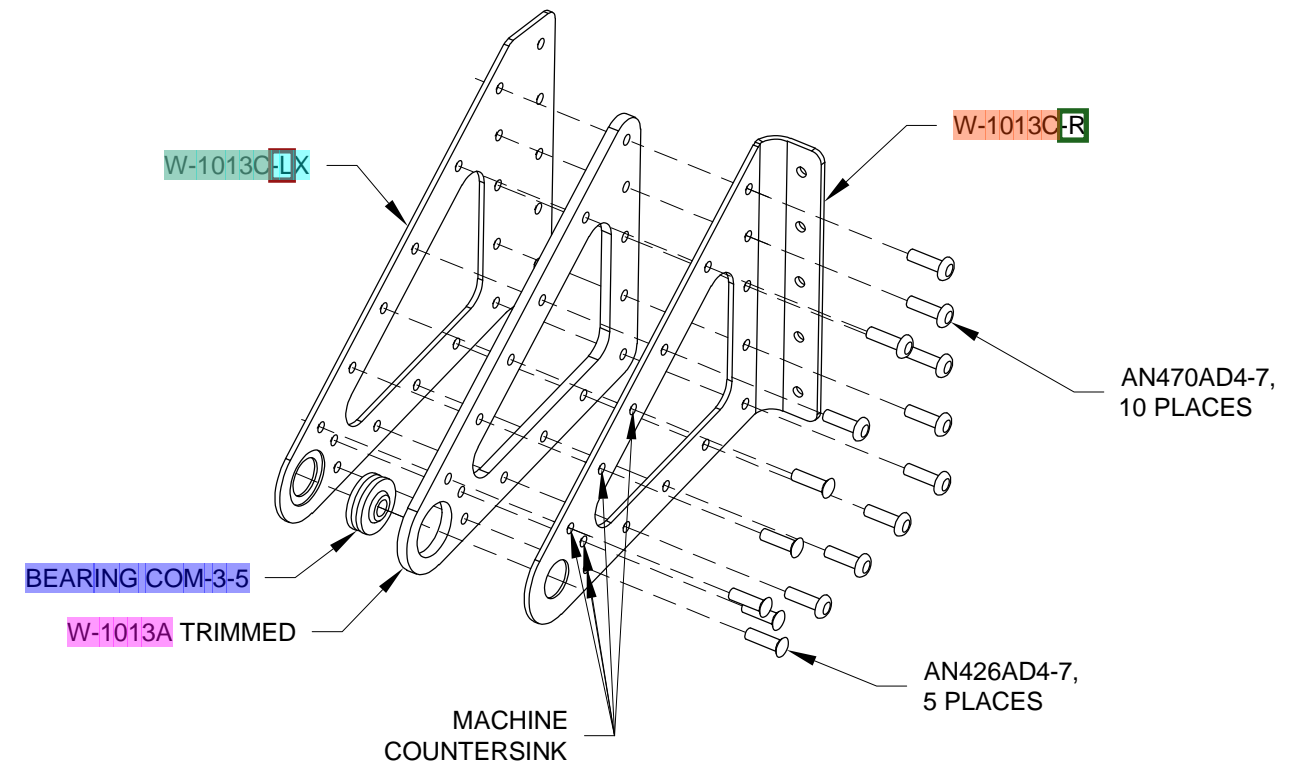

FIGURE 2: W-1014-L OUTBOARD AILERON BRACKET ASSEMBLY
Step 2: Cleco the **W-1013A** TRIMMED Aileron Hinge Bracket Spacer, **W-1013C-L** and **W-1013C-R** Aileron Hinge Bracket Sides together as shown in Figure 2. Match-Drill #30 all common attach holes. Machine countersink the aft holes (as indicated in Figure 2) on the **inboard** face of the **W-1013C-R** Aileron Hinge Bracket Side for the head of an AN426AD4 rivet. Repeat this process for the right outboard aileron bracket assembly.
Step 4: Press a **BEARING COM-3-5** into both **W-1013A** TRIMMED Aileron Hinge Bracket Spacers as shown in Figure 2. Use a 7/16 inch, 3/8 inch drive socket to push and a 9/16 inch, 3/8 inch drive socket to push into. Squeeze with a vise or c-clamp.
Step 6: Rivet the assemblies together using the rivet callouts shown in Figure 2. Set the rivets in a random pattern to inhibit warping in the final assemblies. Set both the **W-1014-L** and **W-1014-R** Outboard Aileron Bracket Assemblies aside, to be installed after the **W-1002** Top Inboard Wing Skin and **W-1003** Top Outboard Wing Skin are riveted in place. This will allow access to buck the outboard-most rivet on the upper flange of the **W-1007A-L** Rear Spar Web.